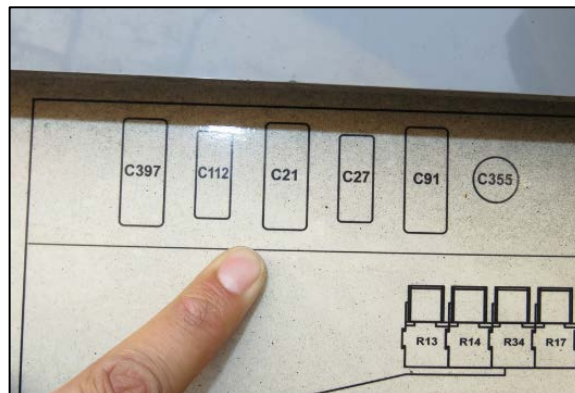

Figure 24
43. Locate the connector C21 on the plan inside the rear junction box cover (Figure 24).